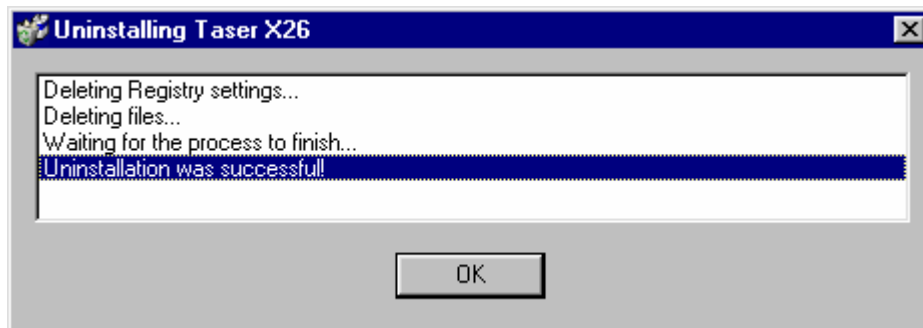

Figure 48
10. Click **OK** when the uninstall is finished (Figure 48).